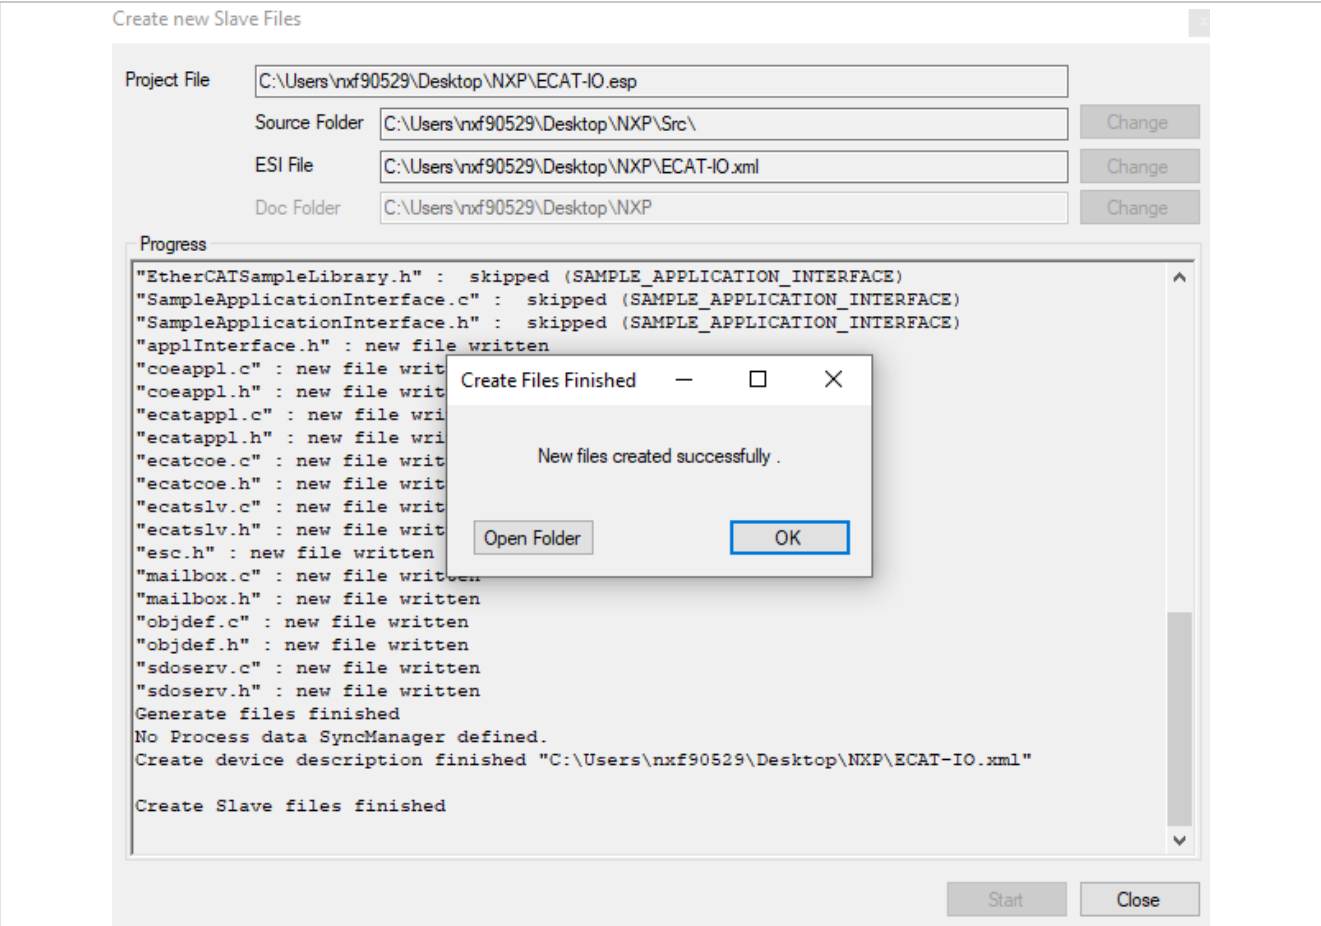

Figure 18. Start creating new Slave files
10. Click **Start**. A new project file is created, as shown in Figure 18. XML file and src folder can be found in the related project folder.